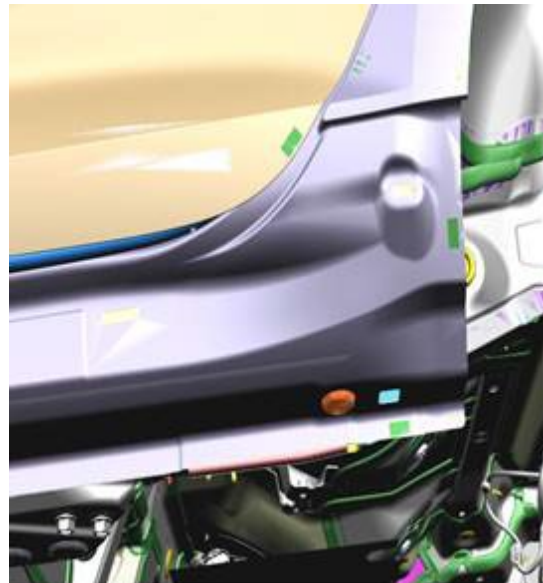

Figure 11. Drain plug on rear of the side member.
- Ensure that the drain function of the draining plugs on the front and rear of the side members are fully functional and not damaged (Figure 11).